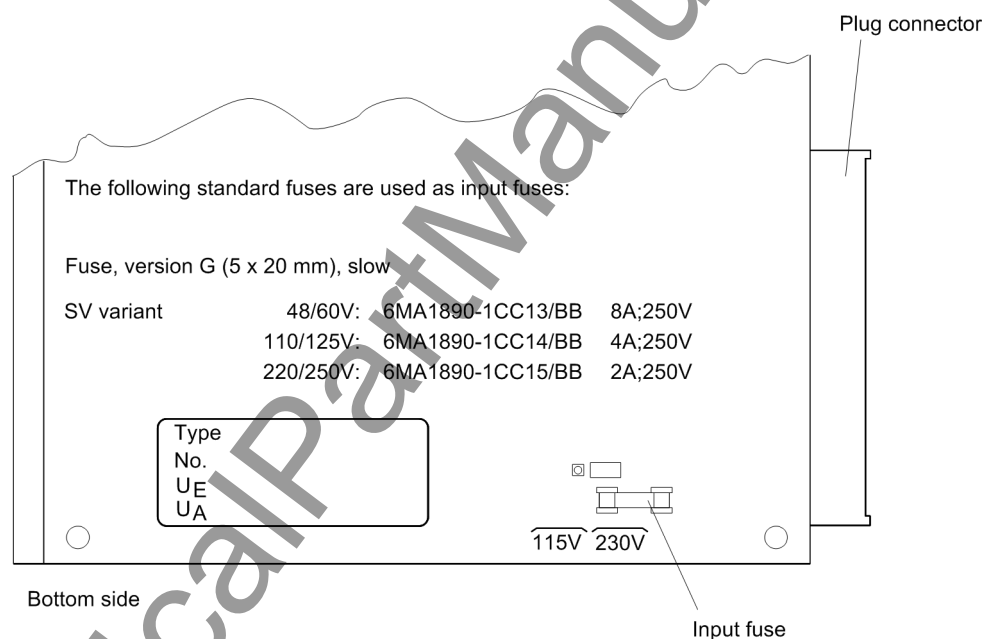
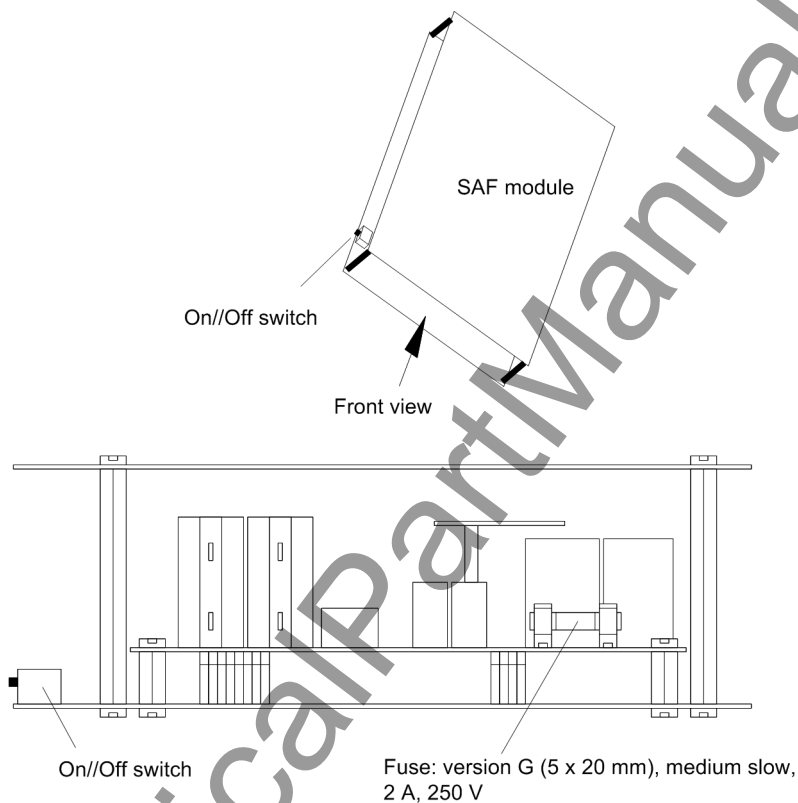

Figure 8-8 Location of the fine-wire fuse on the power supply module (SV) of the central unit
Figure 8-9 Location of the fine-wire fuse on the power supply module (SAF) of the bay unit
The ratings of the required fuses can be found for the central unit in Figure 8-8, page 307, and for the bay units in Figure 8-9, page 308 or Figure A-12, page 357.
- ❑ Replace the fine-wire fuse. The location of the fine-wire fuse can be seen in Figure 8-8, page 307.
- ❑ After fastening the front panel, switch the device on. If the auxiliary voltage failure continues to be indicated, there must be a failure or short-circuit in the internal power supply. The power supply module (SV) should be sent to the factory.
- ❑ Replace the fine-wire fuse. The location of the fine-wire fuse can be seen in Figure 8-9, page 308 or Figure A-12, page 357.